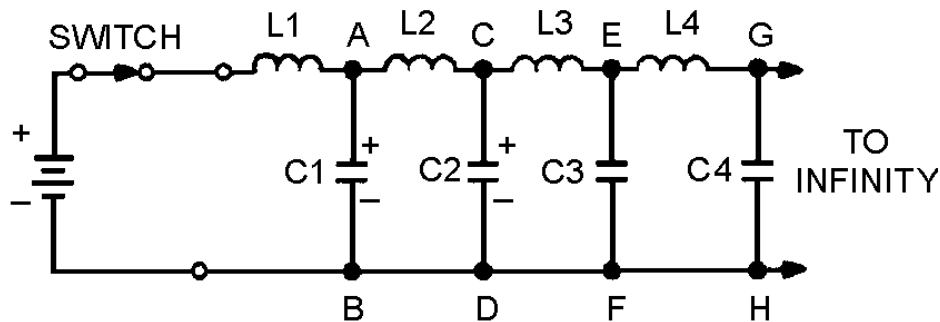

Figure 3-23.—Dc applied to an equivalent transmission line.
If the switch in figure 3-23 is closed for a given time, the quantity (Q) of electricity leaving the battery can be computed by using the equation $Q = IT$. The electricity leaves the battery and goes into the line, where a charge is built up on the capacitors. The amount of this charge is computed by using the equation $Q = CE$.
As each capacitor accumulates a charge equal to CE, the voltage across each inductor must change. As C1 in figure 3-23 charges to a voltage of E, point A rises to a potential of E volts while point B is still at zero volts. This makes E appear across L2. As C2 charges, point B rises to a potential of E volts as did point A. At this time, point B is at E volts and point C rises. Thus, we have a continuing action of voltage moving down the infinite line.
A problem using this equation will illustrate how to determine the characteristics of a transmission line. Assume that the line shown in figure 3-23 is 1000 feet long. A 100-foot (approximately 30.5 meter) section is measured to determine L and C. The section is found to have an inductance of 0.25 millihenries and a capacitance of 1000 picofarads. Find the characteristic impedance of the line and the velocity of the wave on the line.